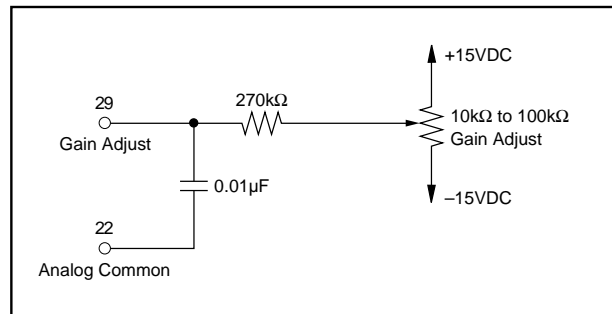

FIGURE 7. Connecting Optional Gain Adjust with a 0.2% Range of Adjustment.
**GAIN** — Connect the Gain Adjust potentiometer as shown in Figure 7. Sweep the input through the end point transition voltage that should cause an output transition to all bits on ( $E_{IN}$ ). Adjust the Gain potentiometer until the actual end point transition voltage occurs at  $E_{IN}$ .